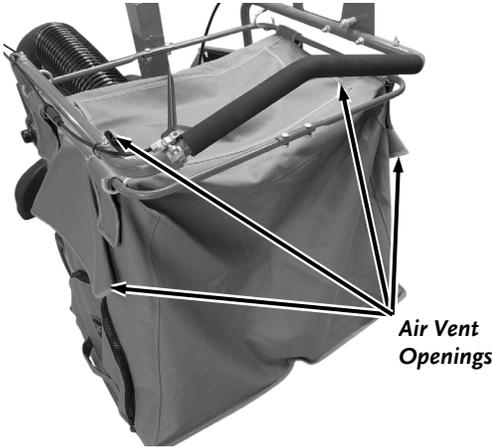

Figure 34
- a. Unhook one side at a time by first Lifting the Bag Frame (**Figure 34**).
- Keeping the Air Vents Clean improves air flow and results in better vacuuming performance (**Figure 34**).